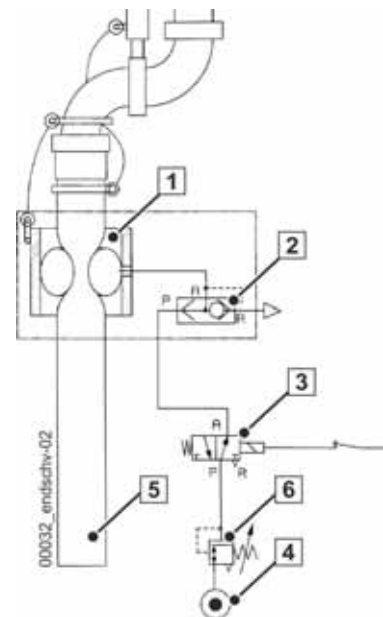

Fig. 586 Non-return valve closed
The solenoid valve (3) (**Fig. 586**) is energised and switches.